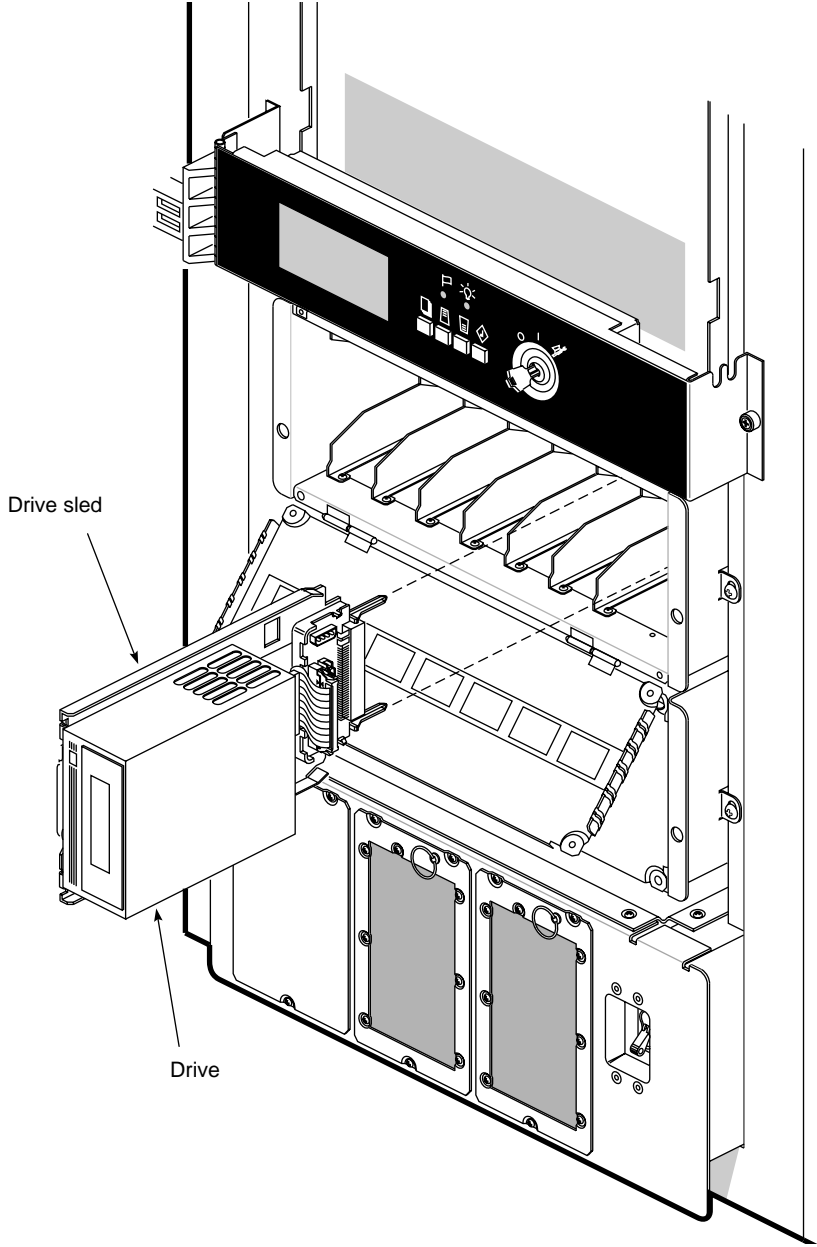

Figure 3-3 Installing a Front Loading Device
4. Orient the FLD relative to the SCSIBox so that the drive is facing toward the right (see Figure 3-3).